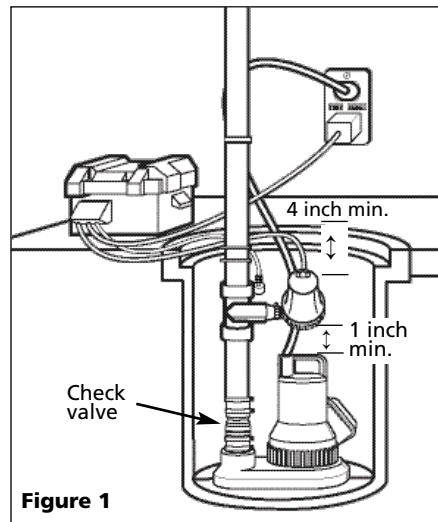

Figure 1
A check valve must be used on the primary sump pump discharge (see Figure 1)
2. Pump must be installed using 1 1/4" or 1 1/2" rigid PVC piping. A check valve (not included) **must** be installed between the ESP's tee and the main pump (see Figure 1).
4. Measure and cut discharge pipe so that back-up pump is a minimum of 1 inch above the main pump. This will allow main pump to operate normally (see Figure 1).